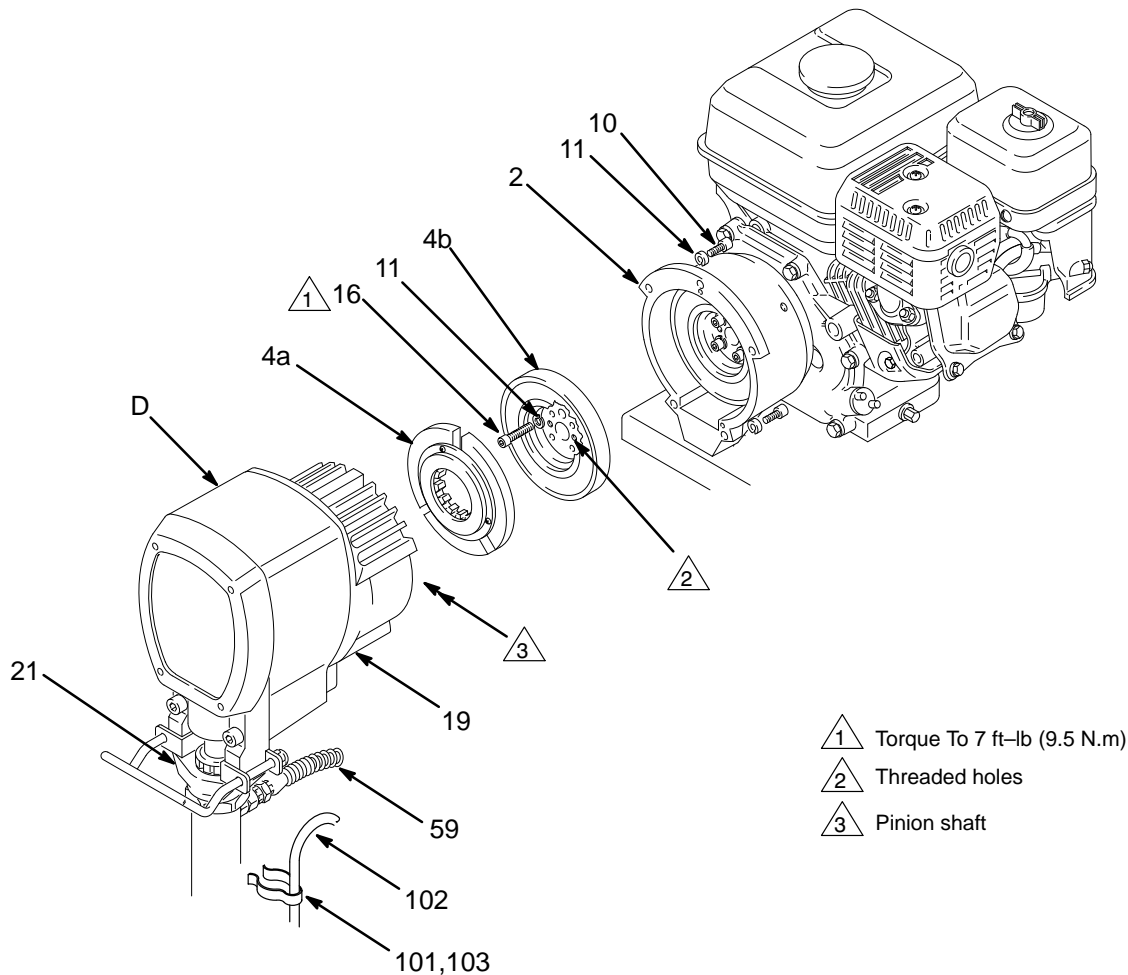

Fig. 23
**NOTE:** The clutch assembly (4) includes the armature (4a) and rotor (4b). The armature and rotor must be replaced together so they wear evenly.
**NOTE:** If the pinion assembly (19) is not yet separated from the clutch housing, follow Steps 1 to 4. Otherwise, start at Step 5.
2. Disconnect the hose (59) from the displacement pump. **For the upright carts only**, detach the drain hose (102) from the pump.
3. Remove the bottom two screws (10) from the clutch housing (2) and then the top three screws.
4. Tap lightly on the back of the bearing housing (21) with a plastic mallet to loosen the assembly (D) from the clutch housing (2). Pull the assembly away; the armature (4a) will come with it. Remove the armature from the pinion shaft.
5. Remove the four cap screws (16). Install two of the screws in the threaded holes in the rotor (4b). Alternately tighten the screws until the rotor comes off. See Fig. 23.